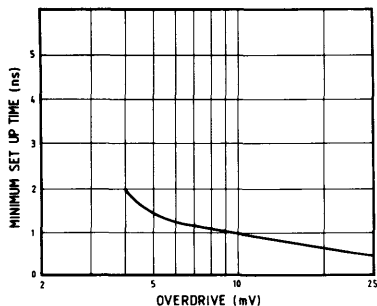

Fig.7 T_s v. overdrive setup time
2. This parameter is defined with $+100$ mV input and -10 mV overdrive, corrected to take account of the comparator offset, i.e. the switching threshold effectively is at OV on the input waveform. The relationship between setup time and overdrive is shown in Fig.7. The test circuit diagram, Fig. 4 indicates a method of performing this test.